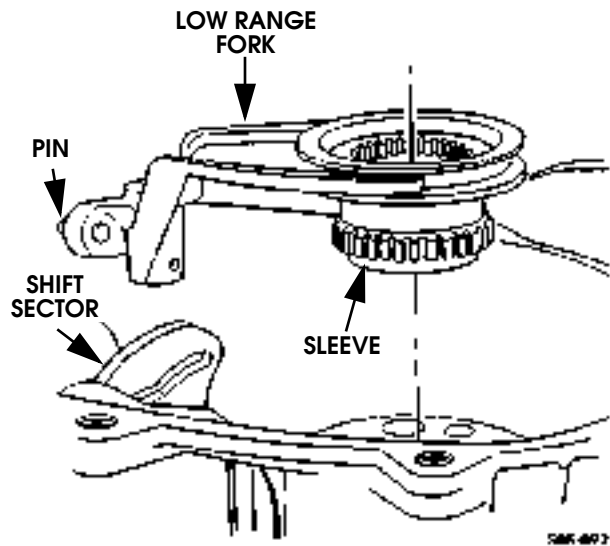

Figure 5-104: Range Fork and Sleeve Removal
26. Slide low range fork pin out of shift sector. Then remove low range fork and sleeve as assembly (Figure 5-104).